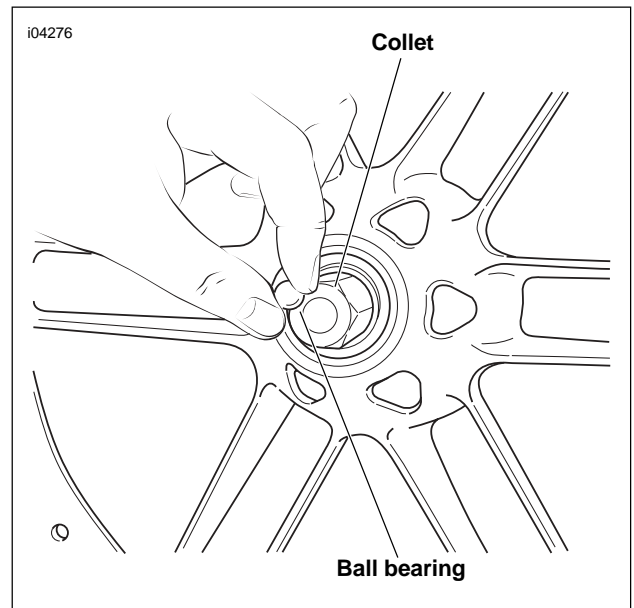

Figure 2-8. Install Collet and Ball Bearing
3. Assemble the short forcing screw (1), nut (2), Nice bearing (3), washer (4) and bridge (5) from the WHEEL BEARING INSTALLER/REMOVER (Part No.HD-44060).
4. See Figure 2-8. Insert the FRONT WHEEL BEARING REMOVER COLLET (Part No. B-43993-7, from kit Part No. B-43993-50) into the wheel bearing until it fully seats against the bearing.